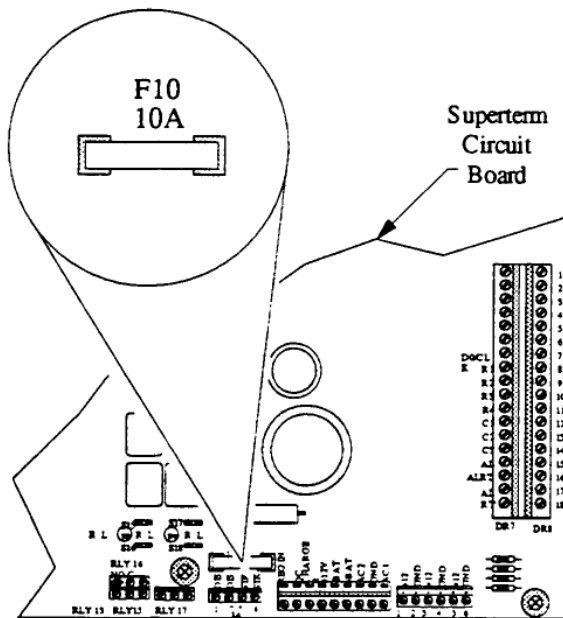

Figure 51 - Superterm Main Fuse Location
A 10-ampere (10A) slow-blow fuse protects the Superterm main circuit board from voltage/ampere surges. The fuse is located on the lower right-hand edge of the circuit board above the STKPWR terminal strip (see Figure 51).
- 2) Using a non-conducting fuse puller, remove the old fuse (see Figure 51).